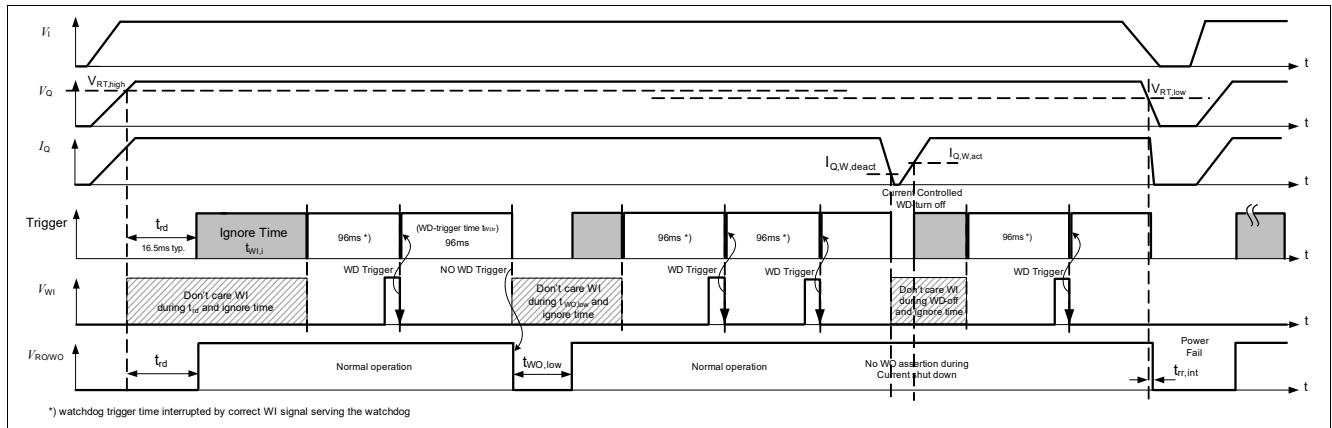

Figure 8 Typical watchdog timing diagram, watchdog and reset modes
Figure 8 shows the state diagram of the watchdog (WD) and the mode selection. After power-on, the reset output signal at the “RO/WO” pin (microcontroller reset) is kept LOW for the reset delay time t_{rd} . With the LOW to HIGH transition of the signal at “RO/WO” the device starts the watchdog ignore time $t_{wi,i}$. Next, the WD starts the watchdog trigger time (time frame within a trigger at WI must occur).